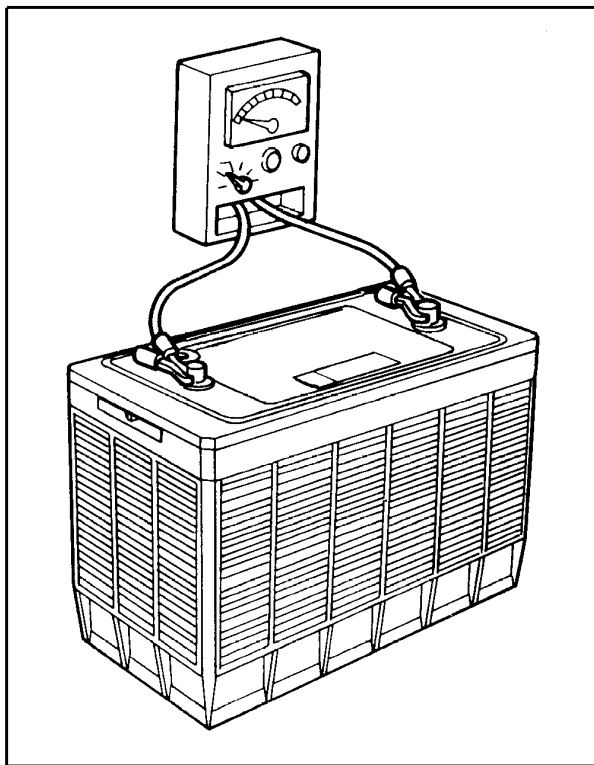

Figure 8 Voltmeter Connection for Stabilized Open Circuit Voltage Test
3. Connect a voltmeter across battery terminals (Figure 8) and observe reading.